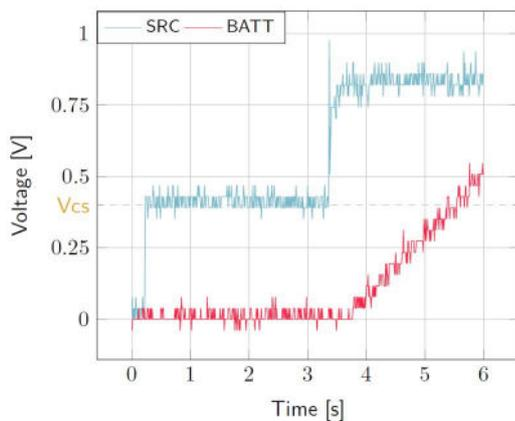

Figure 6: AEM10941 behaviour during cold start
- SRC: Equal to the cold-start voltage during the coldstart phase. Regulated at 70% of V_{oc} when cold start is over. (See Figure 6). Be careful that the cold-start phase time will shorten with the input power. Limit it to ease the observation.
- BATT: Starts to charge when the cold-start phase is over (see Figure 6).